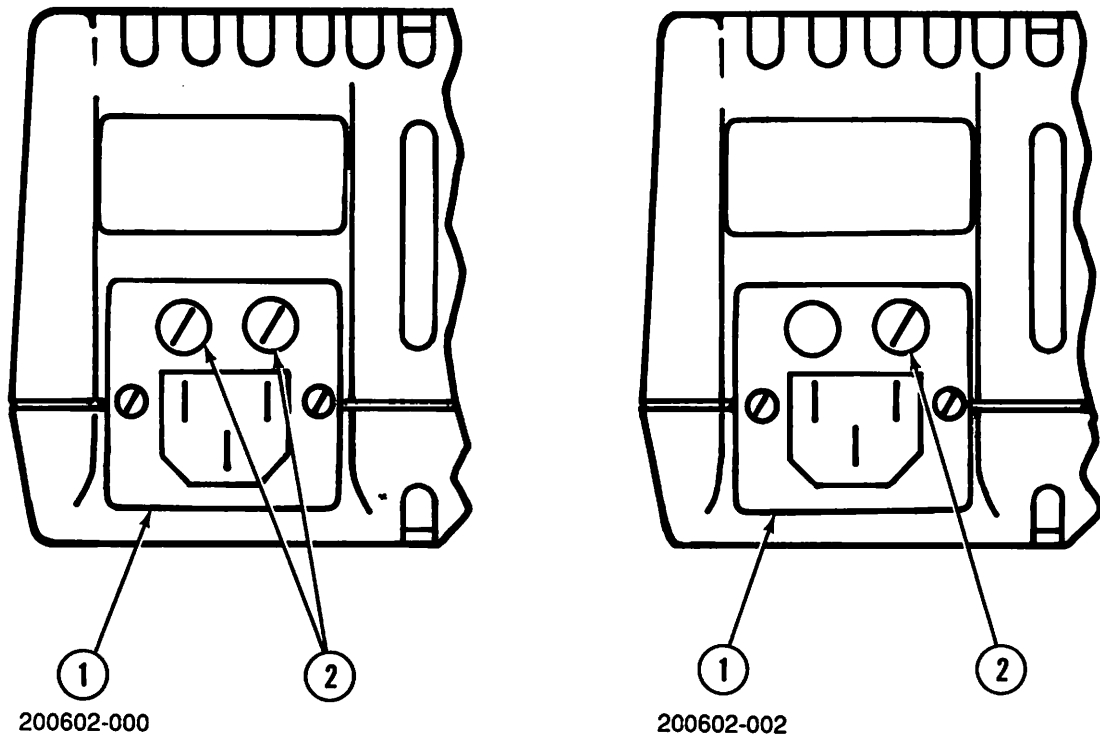

FIGURE 2-2. REAR PANEL CONTROLS
- B. Figure 2-2 provides the rear panel view of the Battery Support System. Each item on this figure is keyed to a corresponding number in Table 2-2. The table lists the nomenclature of each item and briefly describes its function.